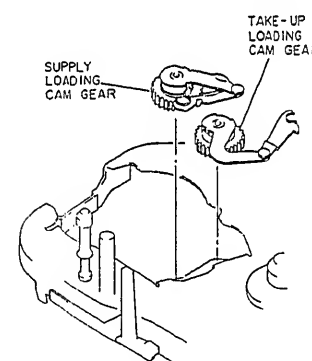

Fig. 2-82
1. Remove the supply loading cam gear and take-up loading cam gear. (See Fig. 2-82)